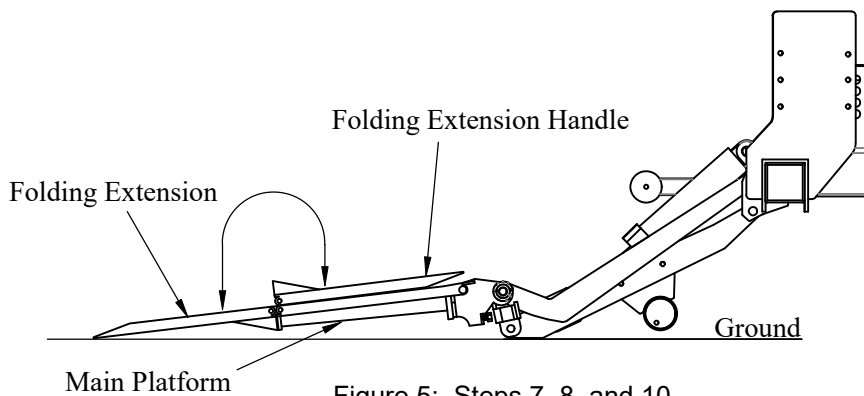

Figure 5: Steps 7, 8, and 10.
7. Stand off to the side and unfold the platform folding extension (Figure 5).
10. To close the platform, stand to the side of the platform, not under or behind the platform. With the liftgate lowered, close and lock the platform cart stops, if so equipped, then fold the folding extension by lifting on the handle (Figure 5).